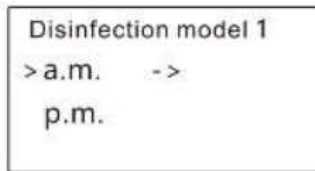
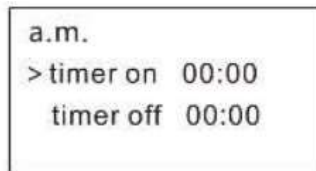

Figure 9
Figure 8
e. When set Timer-1, the start time and end time setting are required, divided into morning and afternoon. Press view button to page 1/2. Move the cursor to Timer-1. Press view button into morning time setting (shown as figure 9). Press view to set the start morning session running time by +/- buttons (1-12 hours), same to set end time (shown as figure 8). Save and back to clock LCD, is shown, as (figure 7). Timer-1 is running. Note: end time must be larger than start time, or system defaults no setting time.